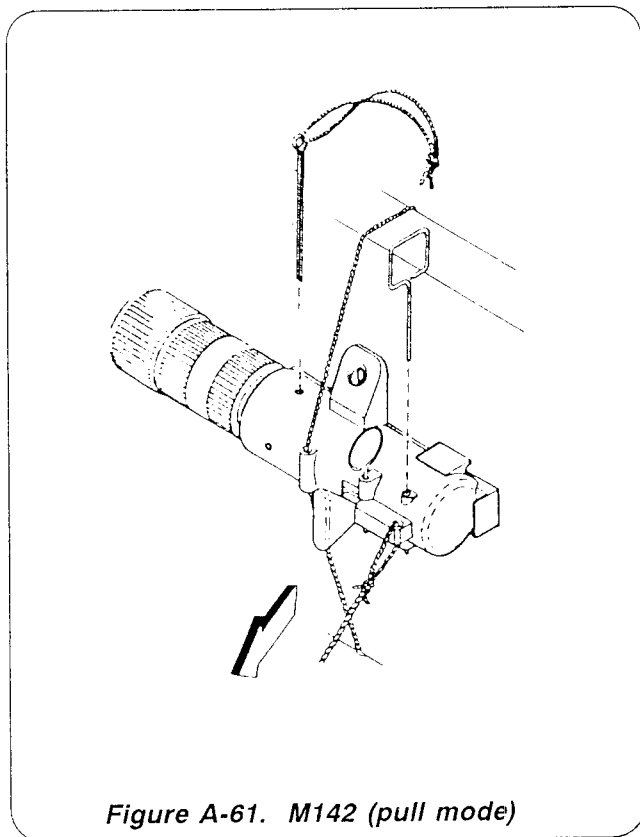

Figure A-61. M142 (pull mode)
- Pull (7 pounds or more) (Figure A-61).